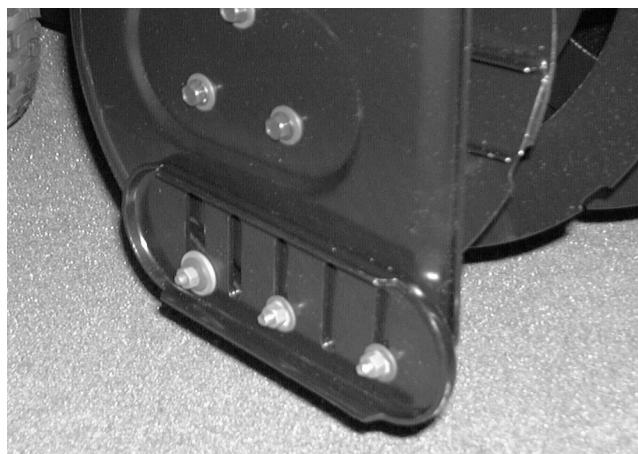

FIGURE 11.
2. Set the shoes to the desired position and re-tighten. See figure 11.